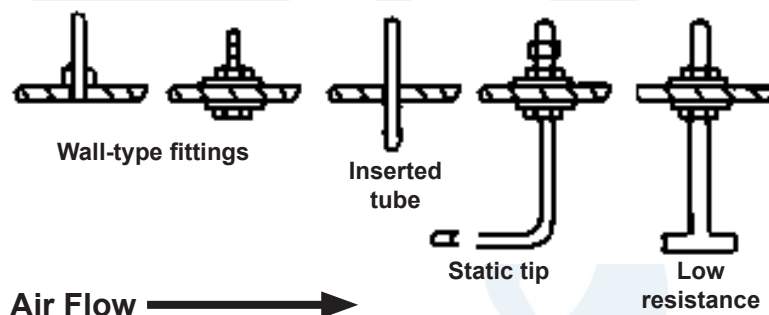

Figure 2 Types of Static Pressure Fittings
- **For locations where pressure readings will be taken frequently**, install a static pressure fitting (see Figure 2).